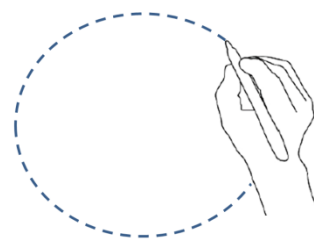

Fig. 1 – Marking the 295mm diameter hole cut-out
5. Mark and cut out a **295mm diameter** hole into the ceiling. (Fig 1)